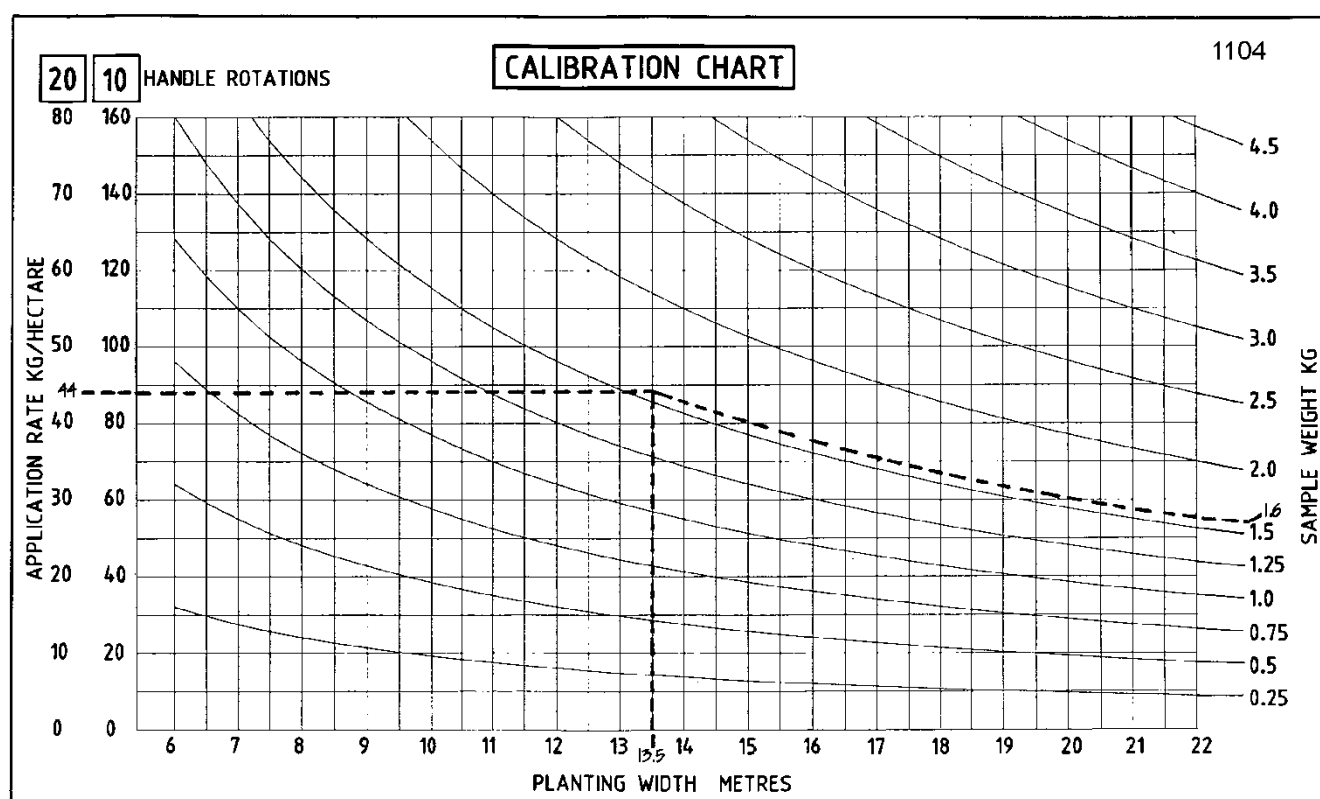

Fig. C7 Calibration Chart Decal.
Step 6. Use calibration chart (on side of the seeder to confirm application. (Refer Fig. C7).
An example is shown on the calibration chart (Fig. C7), for a planting width of 13.5 metres. In this example, an application rate of 44kg/ha is desired. By following the dotted line up and across we can find the intersection, then follow the curved line down to determine the appropriate sample weight required. In this case 1.6kg sample after 20 turns of the handle.